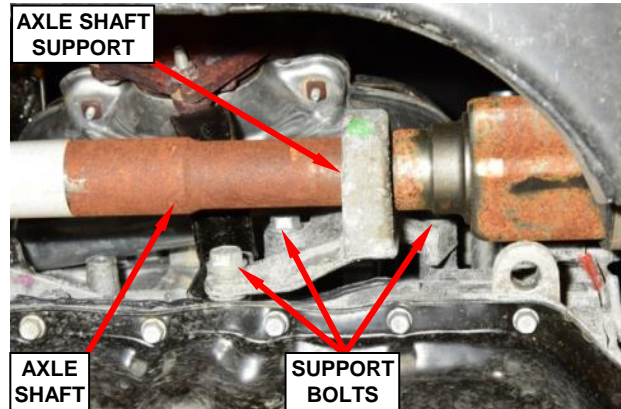

Figure 88 – Axle Shaft Support
70. Remove the three bolts securing the right axle shaft to the engine block (Figure 88).